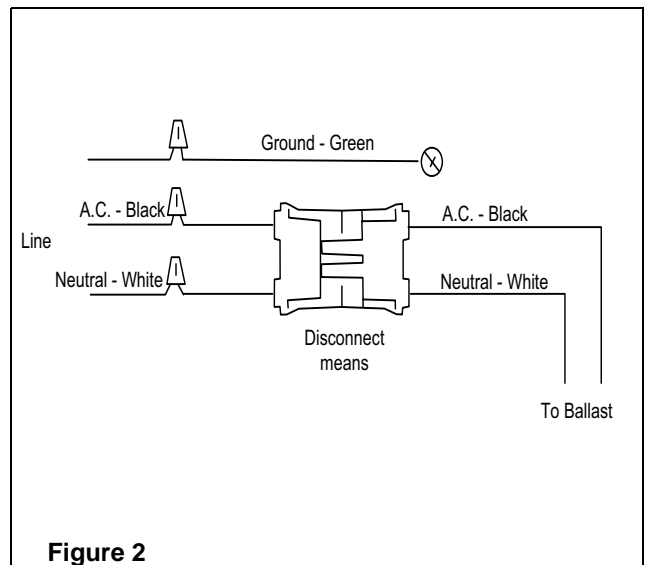

Figure 2
2. Fix the stainless steel hook brackets (5) to the ceiling at 36 inches center to center for the 4 foot fixture and 18-5/8 inches center to center for the 2 foot fixture, using the stainless steel screws provided. Make sure to use the proper anchors depending on the type of ceiling.
3. Attach the back housing (4) to the stainless steel hook brackets (5).
4. Run AC cable of rated voltage into cord grip connector (7) supplied or use sealed conduit and connectors with wire of rated voltage. Make sure you have enough wire length to reach the disconnect means (8) inside the unit.
5. Connect the AC line voltage wires to the disconnect means (8). Line to black wire and Neutral to the white wire. Ground goes to the green wire attached to the gear tray (3) as shown on figure 2. Input AC voltage is indicated on the unit.
6. Snap the gear tray (3) to the back housing (4). **Remove protective film from the aluminized reflector.**
7. Install lamp tubes (2) onto the gear tray (3).
8. Put the lens cover (1) on the back housing (4) and fasten the housing clips.